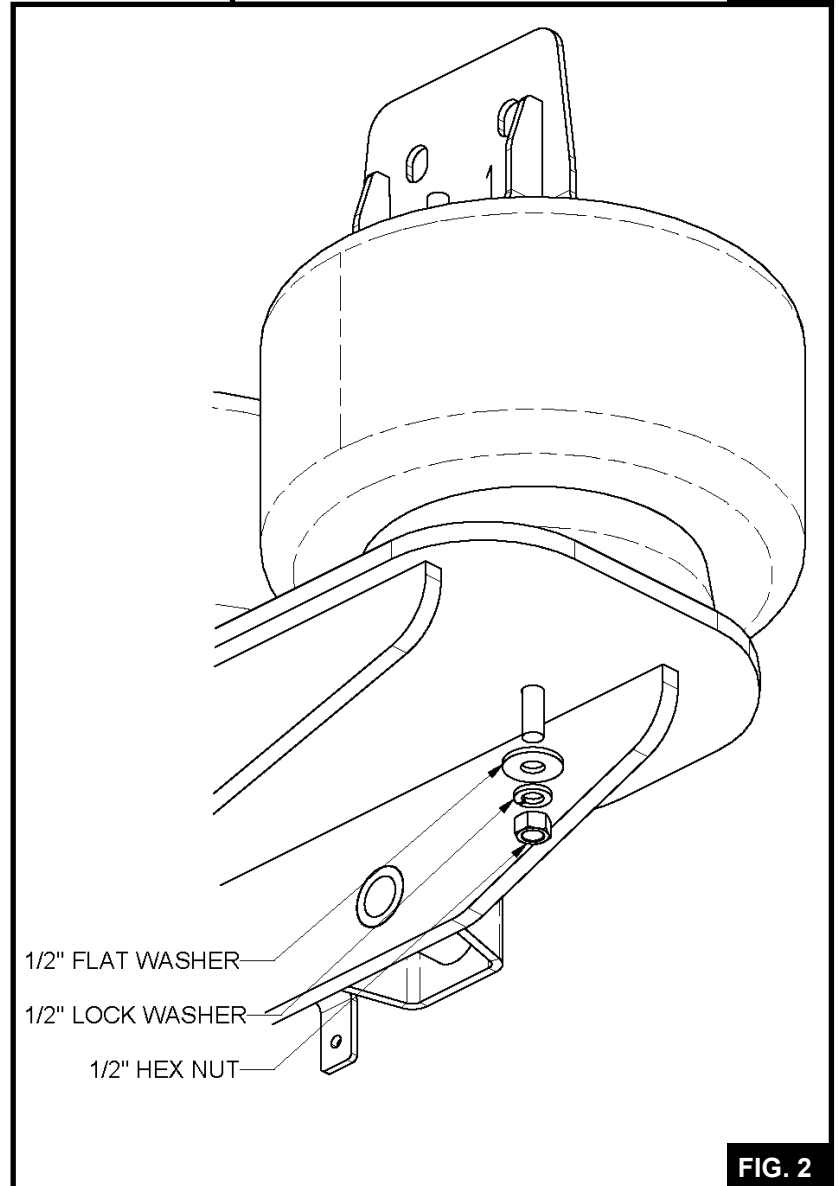

FIG. 2
**5.3** Line up the stud on the base of the air bag with the corresponding opening on the trailing arm. Secure the bottom of the air spring to the trailing arm using the 1/2" flat washer, lock washer and standard hex nut (See FIG. 2).